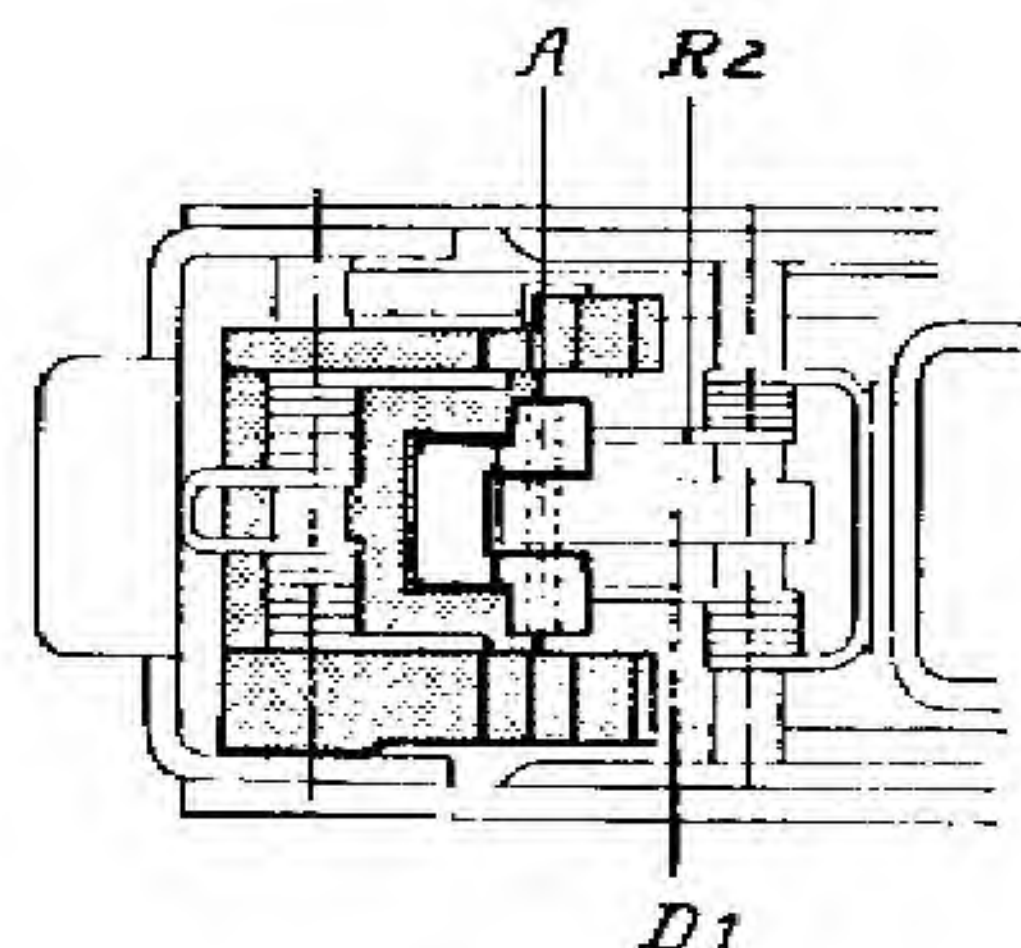

Fig. 12.
When the automatic safety has been compressed, finger pressure on the trigger pivots the upper arm (D 1) of the trigger downwards (fig. 12).
When the trigger is released, its upper arm (D 1) pivots upwards and through the joint pin (A) takes the intermediate lever with it. (fig. 12).